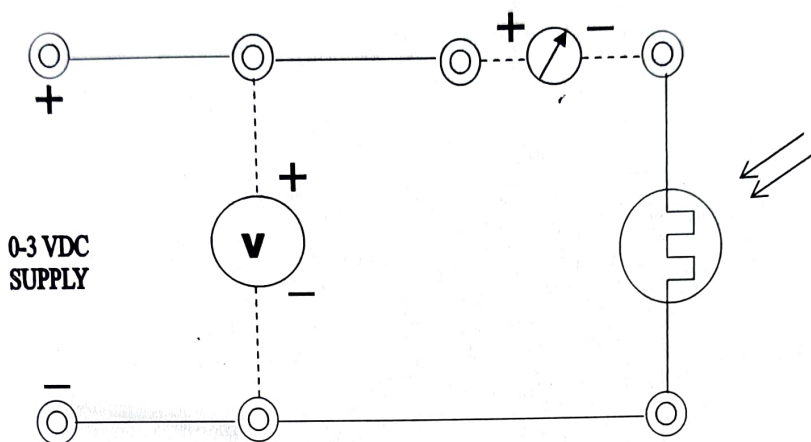

FIG. 2
1. Connect the circuit as in Fig. 2. i.e. connect the voltmeter and current meter in the circuit connecting dotted lines through path cords.